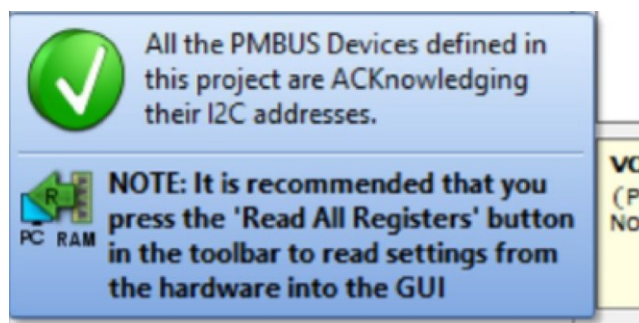

Figure 10. LT7176P-1 Communication Popup Window
3. A green message box (Figure 10) shows for a few seconds in the lower left-hand corner, confirming that the LT7176P-1 is communicating: